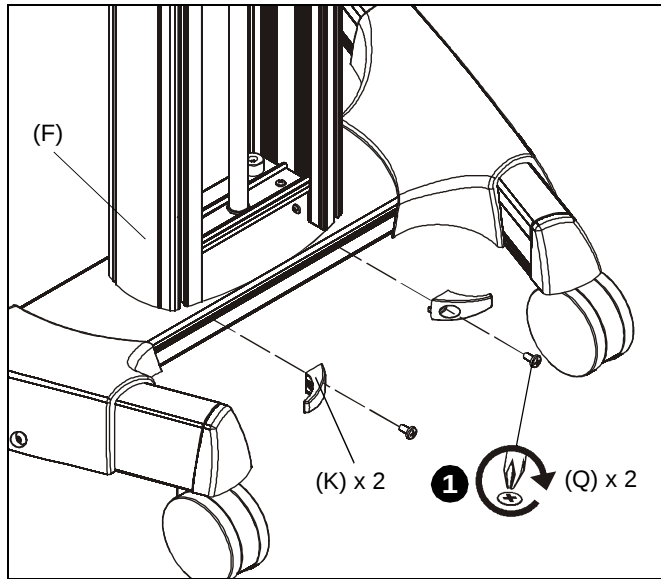

Figure 11
1. Use two 1/4-20 x 1/2" Phillips pan machine screws (Q) to attach two cable hooks (K) to bottom of column assembly (F). (See Figure 11)